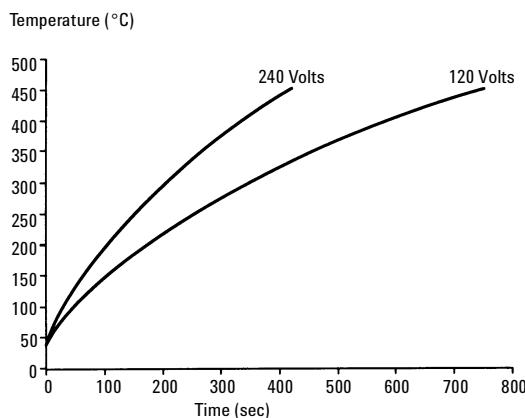

Figure 540-1 Typical oven heatup rates,
- Actual programming rate: see Figure 540-1